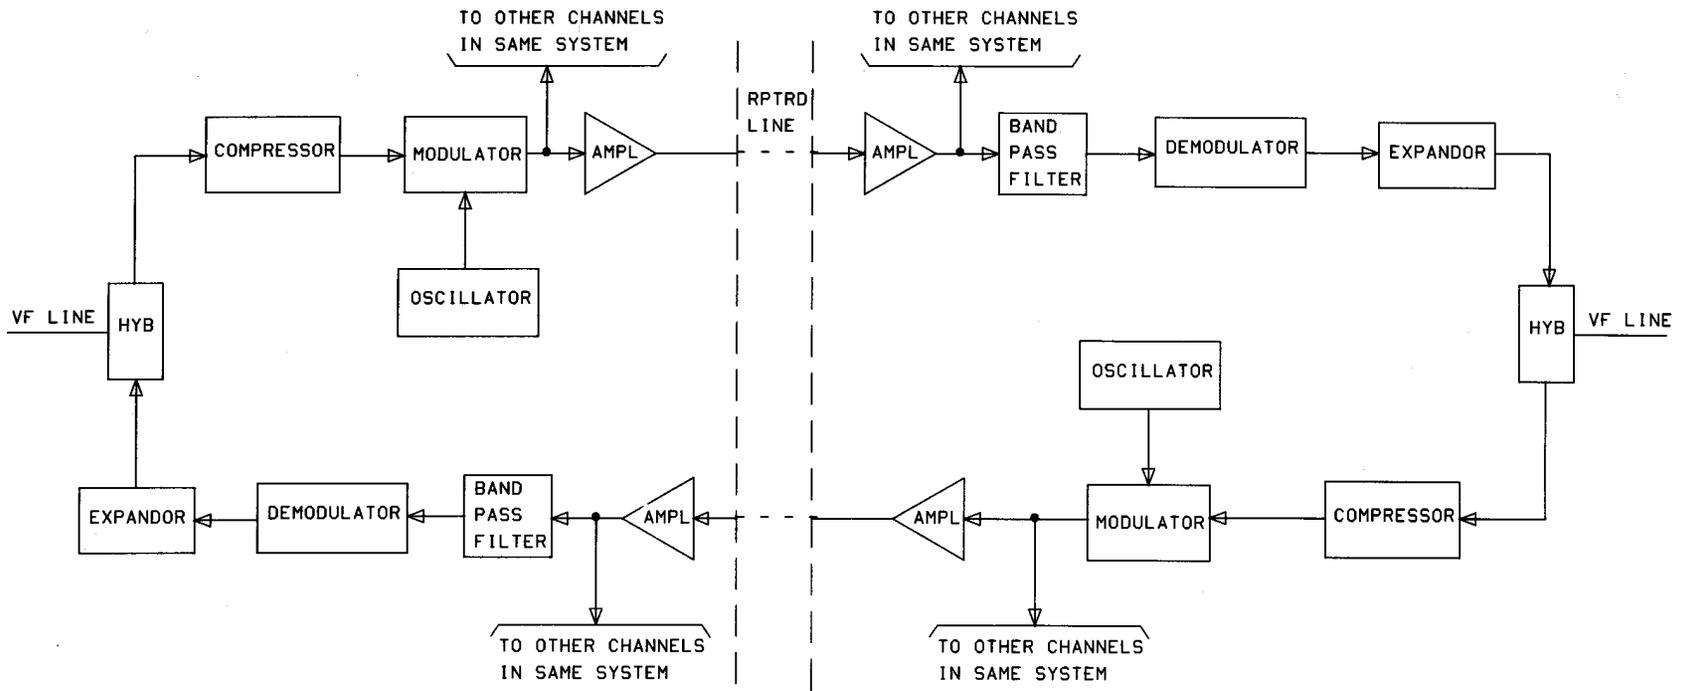

Fig. 3-10—Block Diagram of Typical Carrier System
**3.29** Carrier facilities transmit more than one conversation over a single transmission path by use of various types of modulation. At one end or terminal of the carrier, the voice frequencies of a number of circuits or channels are modulated and then transmitted to the distant end in a different format. At the distant terminal the channels are demodulated to restore the conversations to voice frequencies. The three types of modulation used by the various carrier system are: amplitude modulation, frequency modulation, and pulse code modulation. A block diagram of a typical carrier terminal is shown in Fig. 3-10. Table 3A gives more detailed information concerning each carrier system.